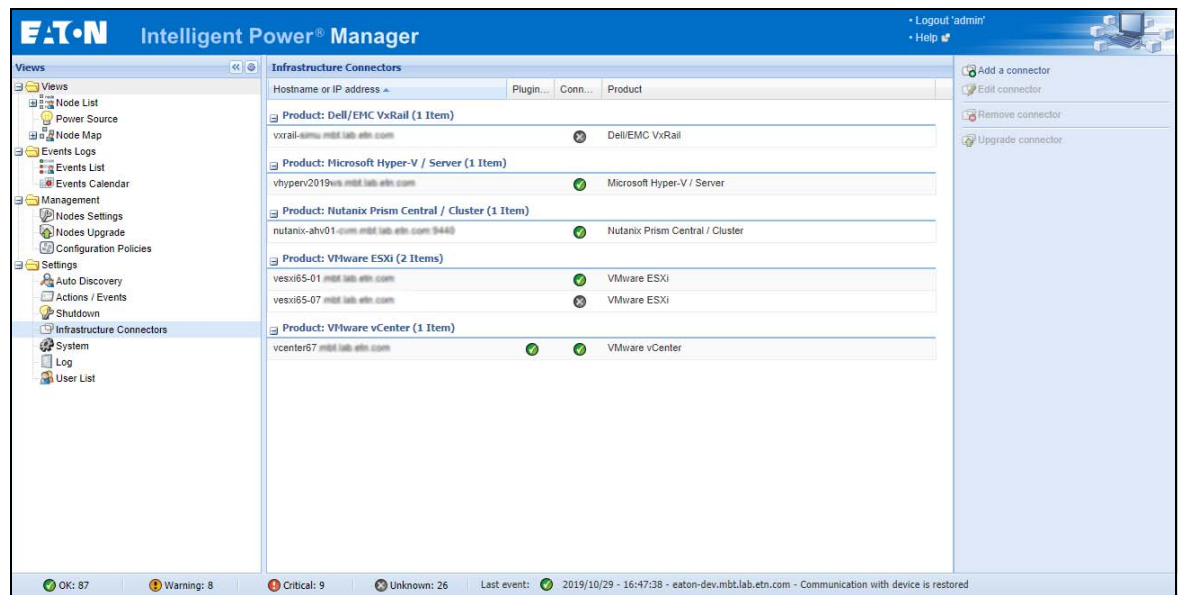

Figure 87. System Settings Page
2. Click **Edit modules settings** in the right panel. The Edit modules settings dialog box displays (see Figure 87).